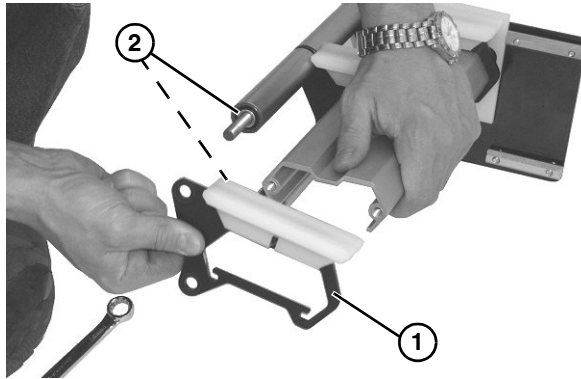

Figure 49
7. Slide the support plate (**Figure 49, item 1**) off of both axle shafts.
8. Remove washer (**Figure 49, item 2**) off of lower and upper axle shafts.